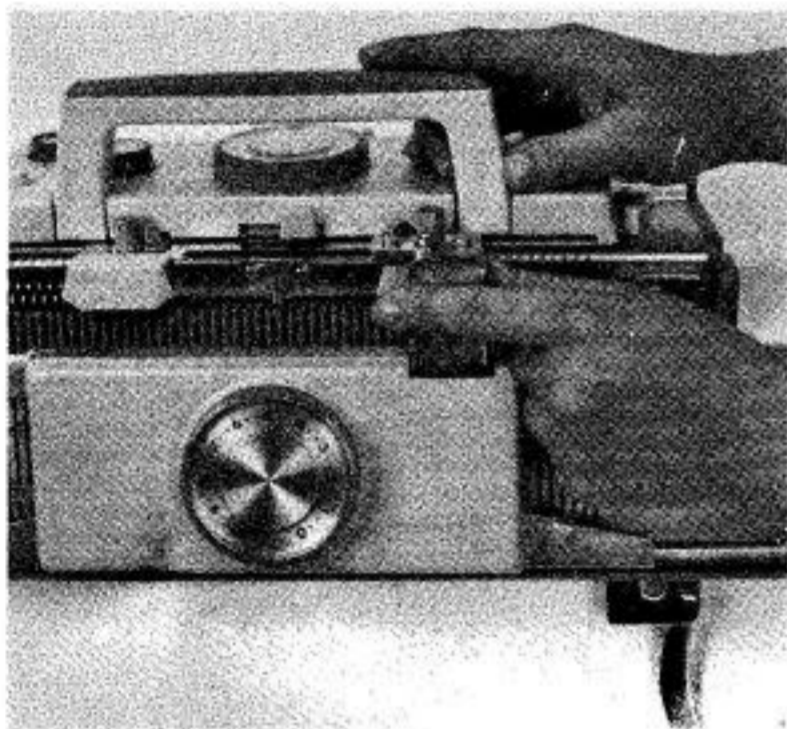
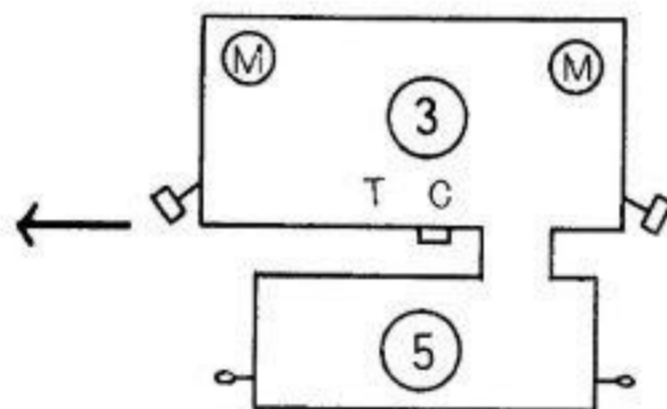

Fig. 30
Fig. 31
1. Couple the two carriages together by means of the spring loaded connecting arm. This arm clips over the metal bracket protruding from the feeder on the main machine. Commence with both carriages on the right. (Fig. 30) Set the controls as follows—see Fig. 31.
2. Without threading the yarn through machine feeder, move both carriages across to the left. (Fig. 31)